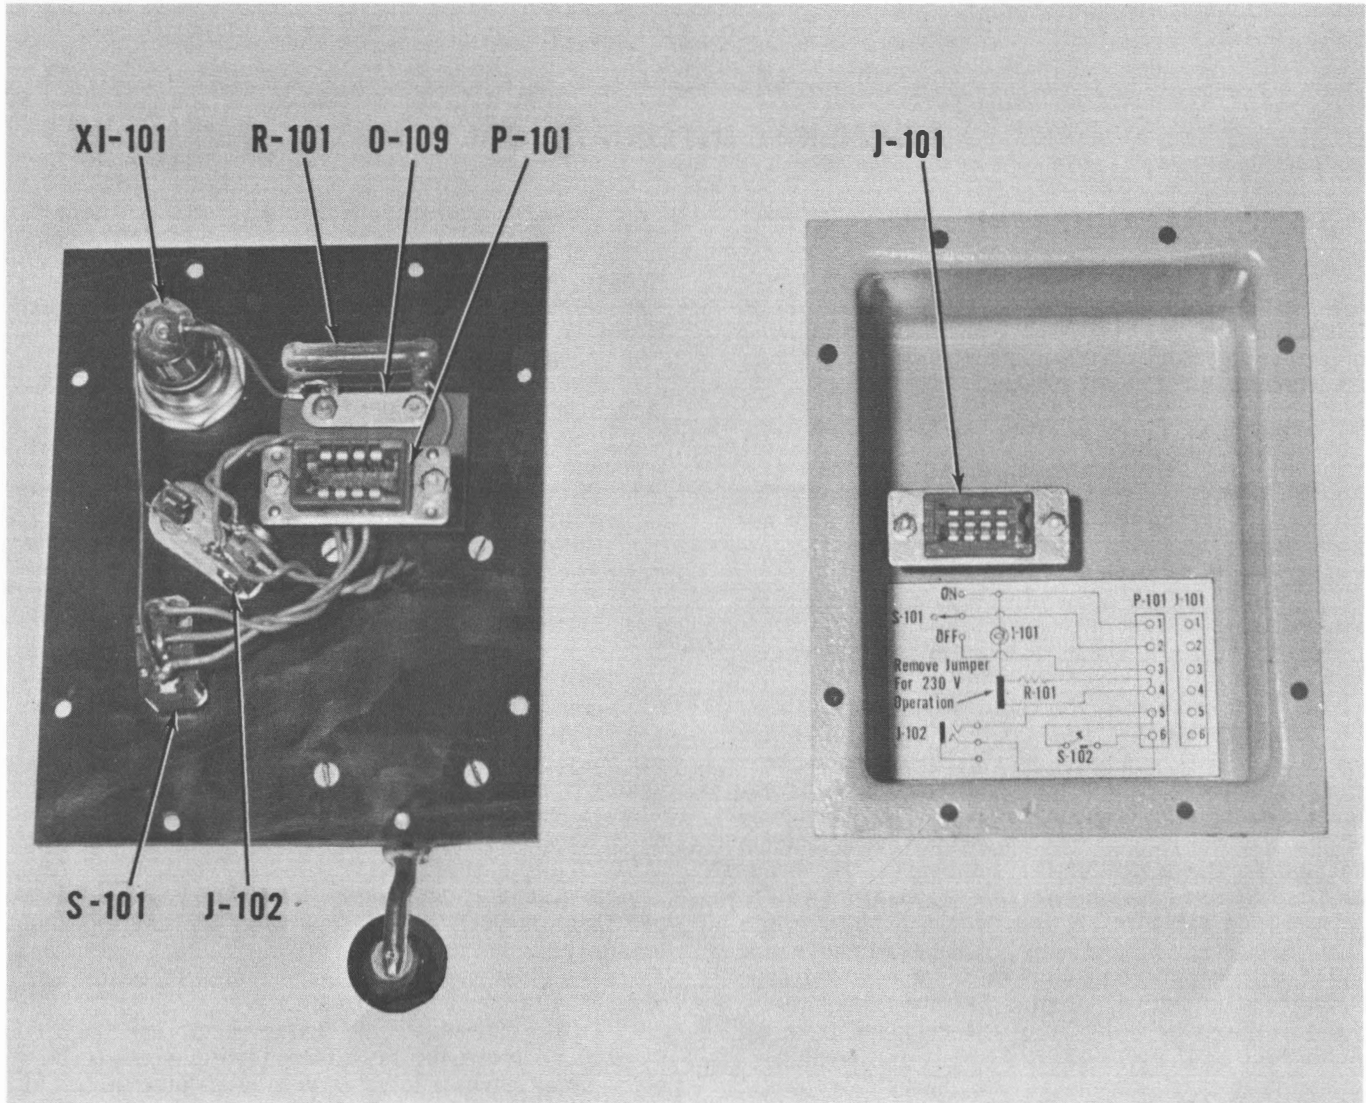

Figure 1-2. Control Panel Telegraph Key SB-315B/U, Interior View
(1) Turns power on or off for an associated radio transmitter.
(2) Provides a visual indication when the transmitter is on.
(3) Permits keying the radio transmitter.
b. **DESCRIPTION.** - The Control Panel Telegraph Key SB-315B/U consists of a gray aluminum box-type enclosure with a black plastic panel. All components except the connector receptacle are mounted on the plastic panel. The connector receptacle is mounted on the inside of the enclosure. The overall dimensions of the unit are 5-1/2 x 8-3/8 x 4-7/16 inches. The panel is secured to the enclosure with eight mounting screws. All mating surfaces are sealed with neoprene gaskets to prevent the entrance of dust and moisture. Figure 1-2 shows an interior view of the unit with the panel removed from the enclosure.